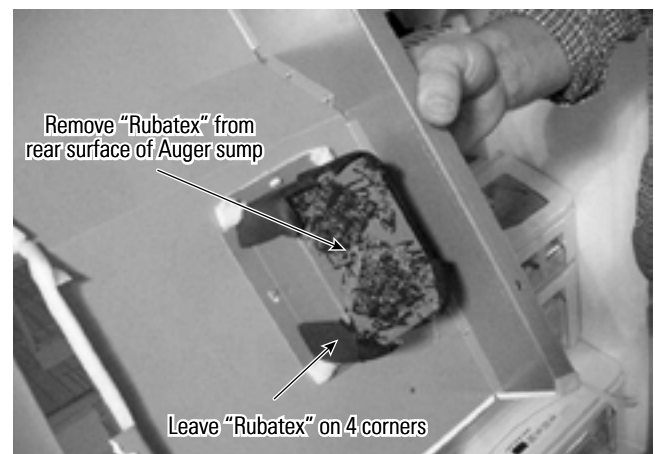

Figure 1
11. Remove (6) screws in rear duct and "carefully" remove the rear duct.
12. Turn duct cover over and remove the "rubatex" on the rear surface of the sump by cutting the rubatex and scraping it off the sump. Leave rubatex on the corners of the sump. **See Figure 1.**
13. Re-install the rear duct, replacing (6) screws
****Do not install the (2) lower screws that attach the Auger bracket to the rear liner ****